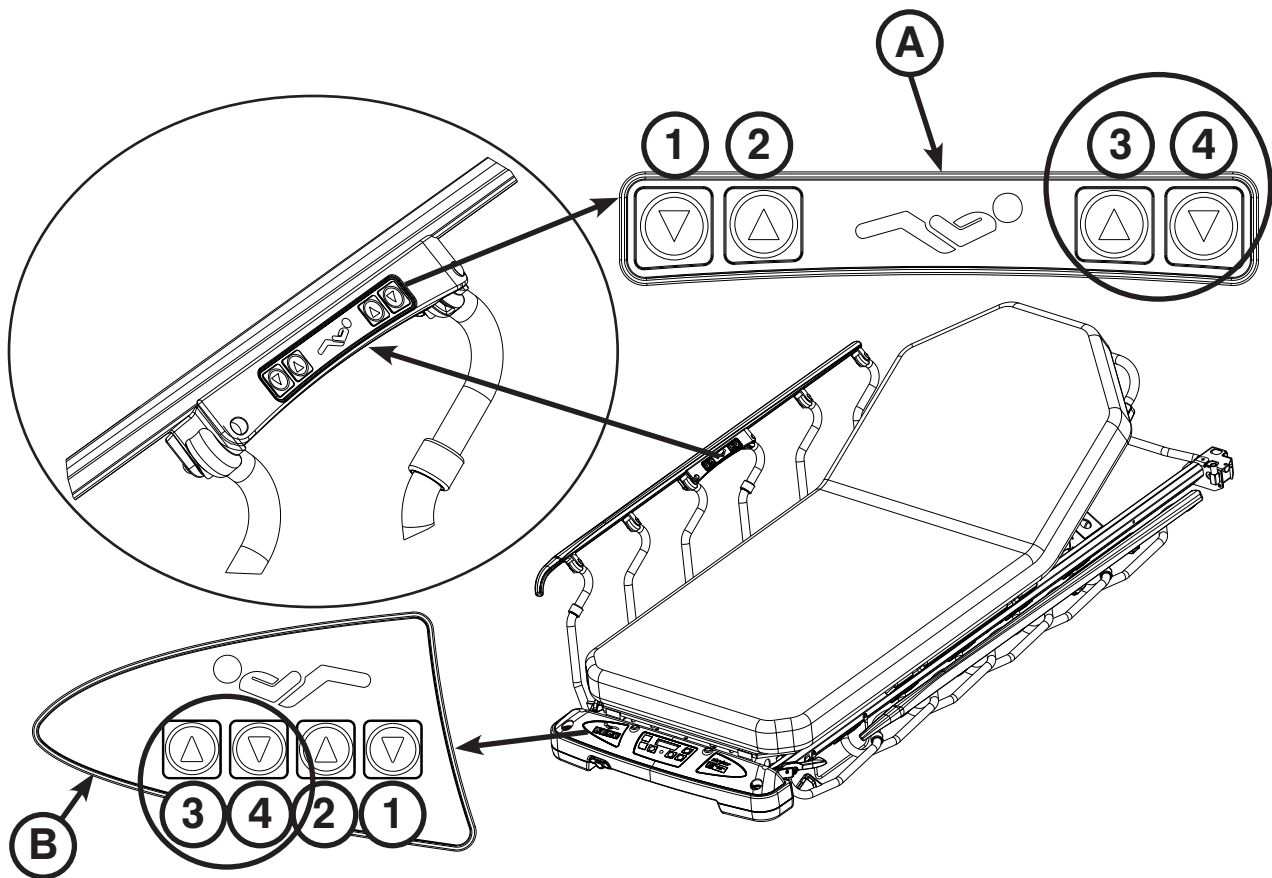

Figure 22: Fowler - Electric Option
To raise the fowler, press the UP (3) button on the patient siderail controls (A) or foot end nursing controls (B) until the fowler has reached the desired angle (between 0 and 70 degrees) as shown in Figure 22.
To lower the fowler, press the DOWN (4) button until the fowler has reached the desired angle (between 70 and 0 degrees) as shown in Figure 22.